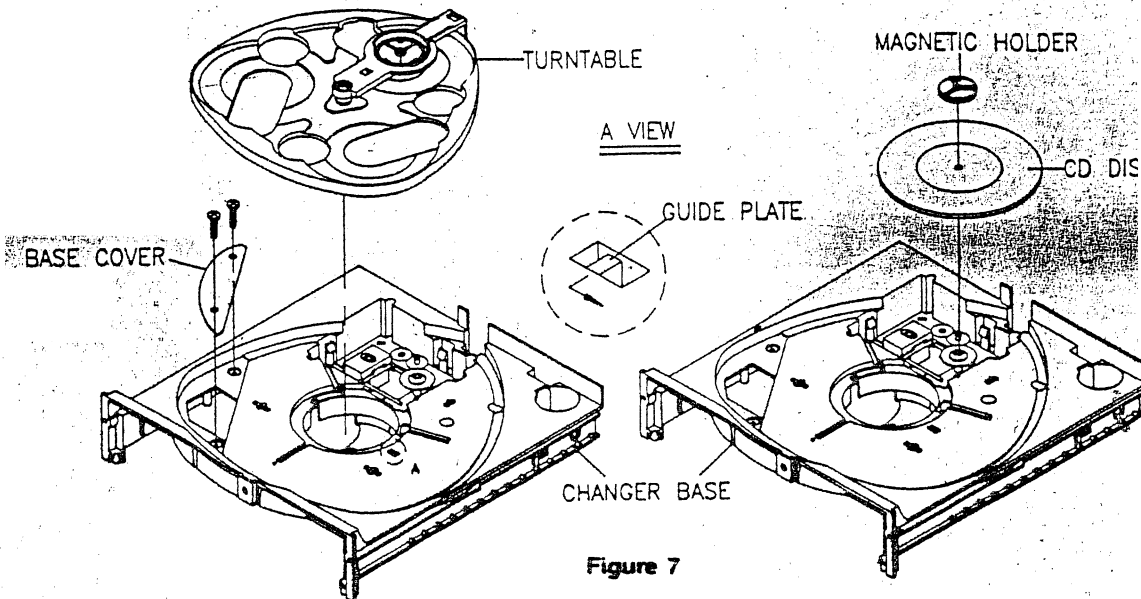

Figure 7
1. Remove the turntable by sliding the Guide Plate outward (See Fig. 7)
2. Disassembly the Base Cover by removing 2 screws (See Fig. 7)
1. Connect CNOB to the power supply, insert CD test disc (SONY YEDS-7) into the player, held in place by a magnetic holder (See Fig. 7)